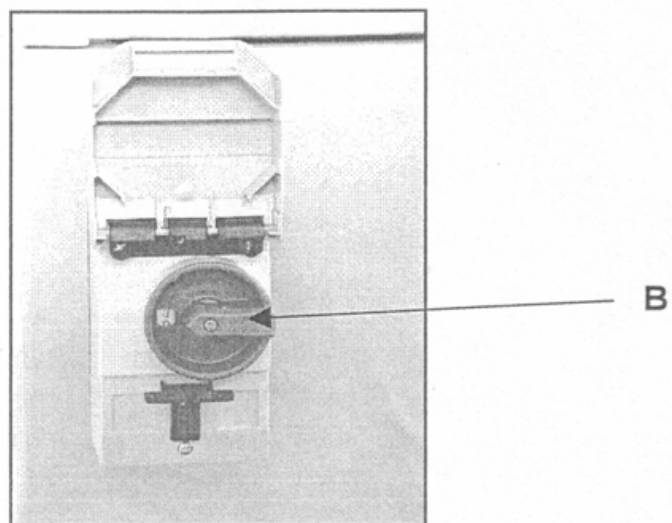
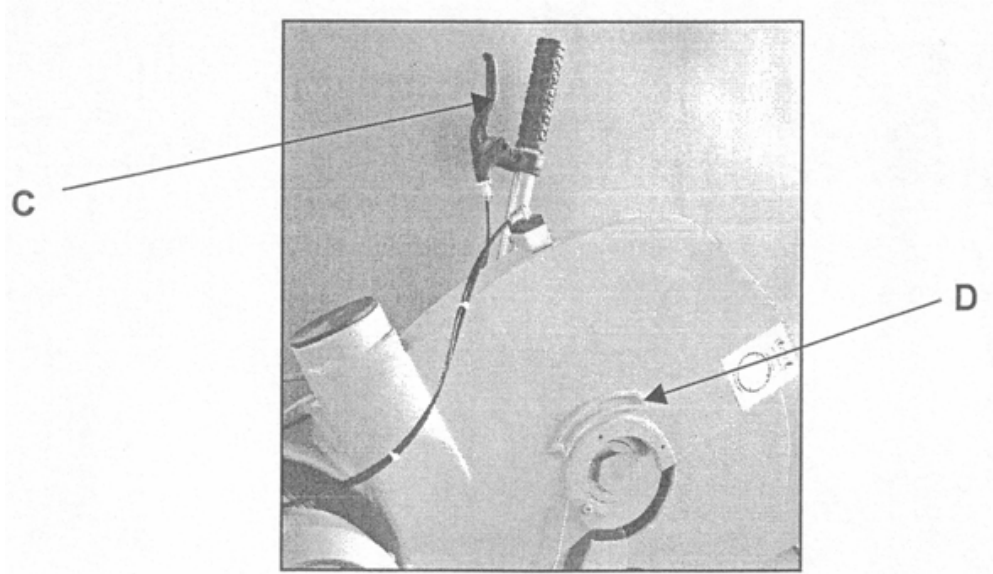

Fig. 4
Fig. 5
3. Turn the main power switch to position 1 (Fig. 4 part. B). At this point check the direction of blade rotation, which must correspond to that indicated from the arrow on the guard (Fig. 5 part. D).
4. To proceed release the safety stop of the head using the lever situated on the handle for the blade descent (Fig. 5 part. C).